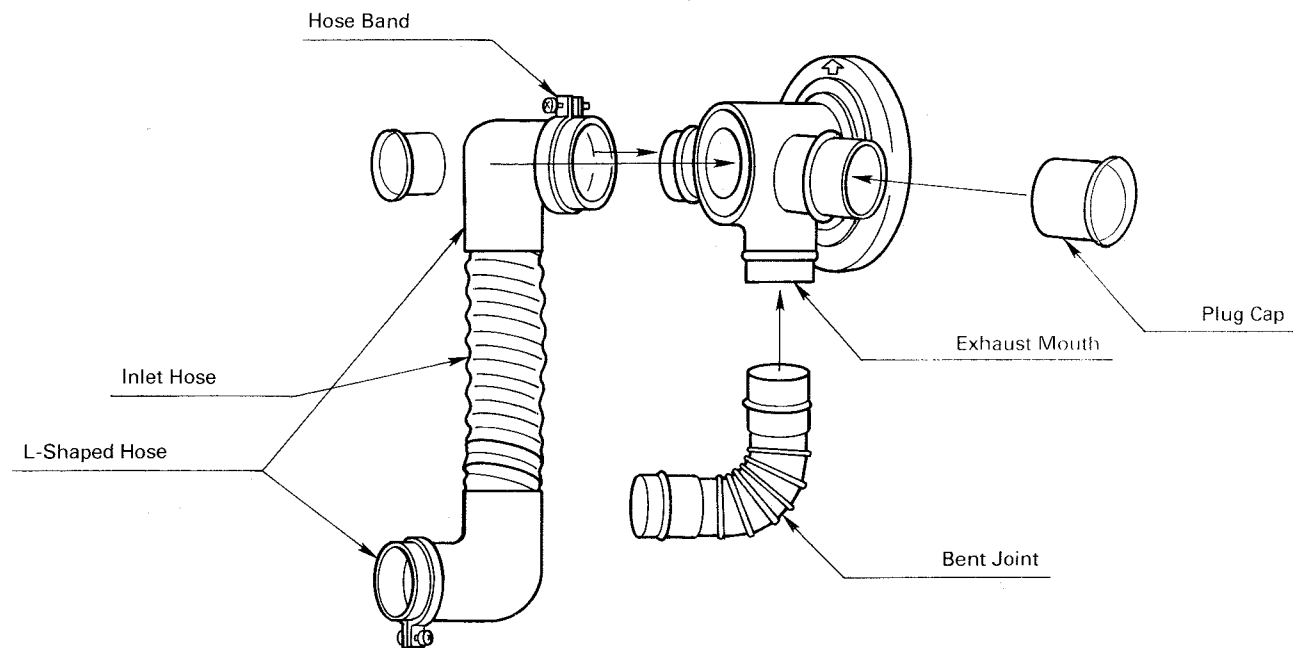

Fig. 14
8. Insert the bent joint to the exhaust mouth of the telescoping flue pipe. Cut the inlet hose for desired length if necessary. Attach the L-shaped hose to each end of the inlet hose and attach the L-shaped hose to the intake mouth of the telescoping flue pipe. Secure the L-shaped hose to the intake mouth with the hose band. Plug the unused exhaust and intake mouth with the caps provided with the heater. Make sure the caps fit tightly onto the mouth (See Fig. 14).